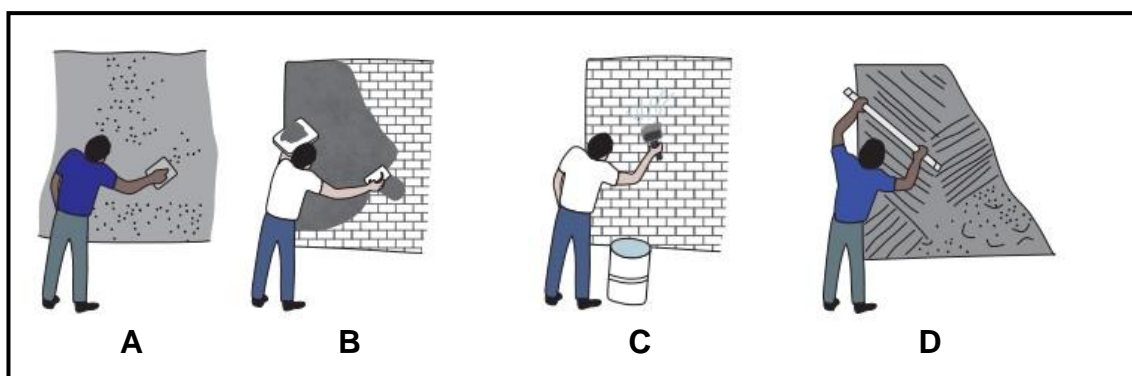

FIGURE 5.1
- 5.1 The pictures in FIGURE 5.1 below show steps of a building process. Study the pictures and answer the questions that follow.